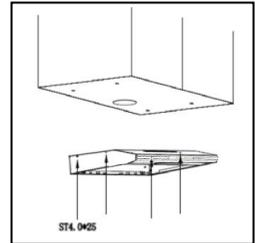

Fig. 9
Fitting in to top cabinet (Fig. 9)
- ▶ For ducted mode, cut a minimum of $\varnothing 140$ mm hole on cabinet base. (Fig. 9).